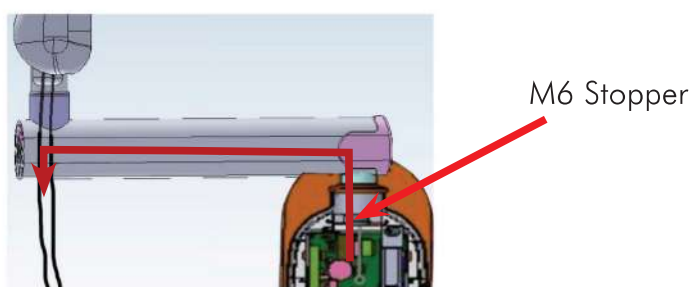

Figure 62
- Remove the M6 stopper screw from the straight arm shaft using 5mm Allen key and pull out the cable from base unit as shown in Figure 62 .